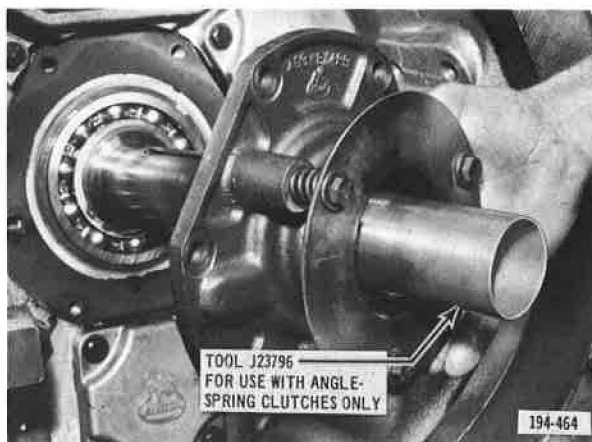

Figure 5-108. Installing Main Driving Pinion Bearing Cover Assembly
25. Install tool J23796 in main driving pinion bearing cover and carefully through cover oil seal. This tool will eliminate the possibility of cutting oil seal when installing cover over the splined end of main driving pinion. See Figure 5-108. Apply sealer compound and install gasket and cover assembly. Remove tool from cover assembly. Install cover cap-screws and tighten to recommended torque.